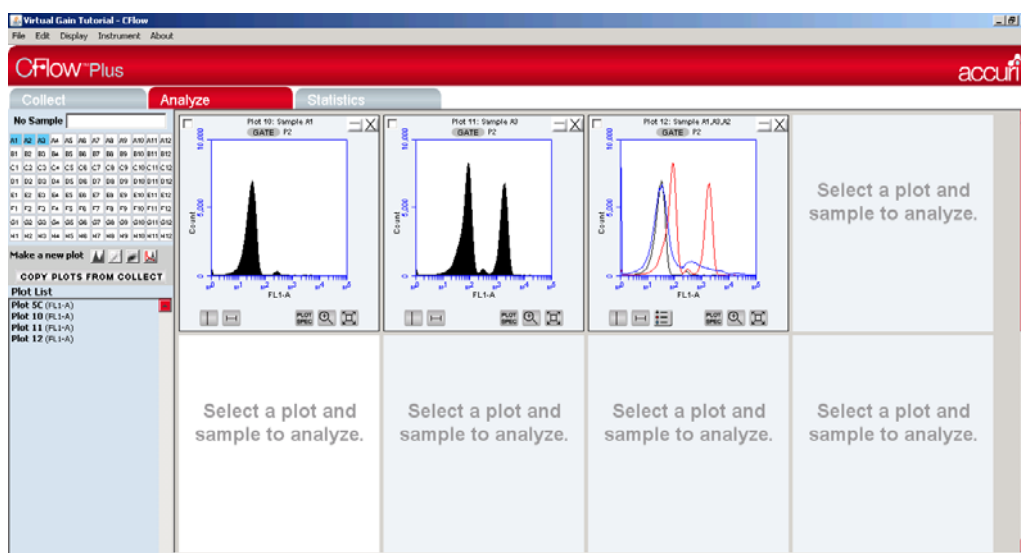

Figure 6-2 Recreate the histogram or copy plots from Collect
3. Recreate the histogram or copy plots from Collect for application of VirtualGain (Figure 6-2).